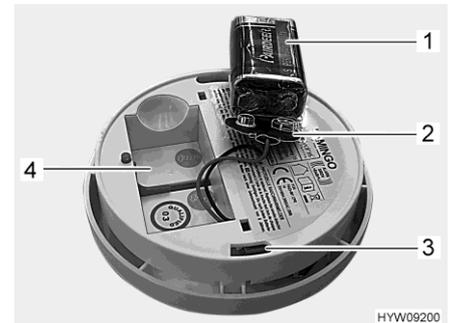
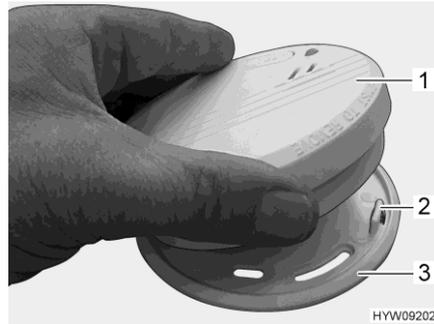

Fig. 115 Smoke alarm (rear side)
Fig. 116 Fit the smoke alarm
- Remove the battery and disconnect it from the battery clip (Fig. 115,2).
- Connect the new battery (Fig. 115,1) at the battery clip (Fig. 115,2). When doing so, make sure that the battery poles engage on the battery clip.
- Place the battery into the battery compartment (Fig. 115,4).
- Place the smoke alarm (Fig. 116,1) onto the holder (Fig. 116,3). The holding lugs (Fig. 116,2) must engage in the openings (Fig. 115,3) in the smoke alarm.